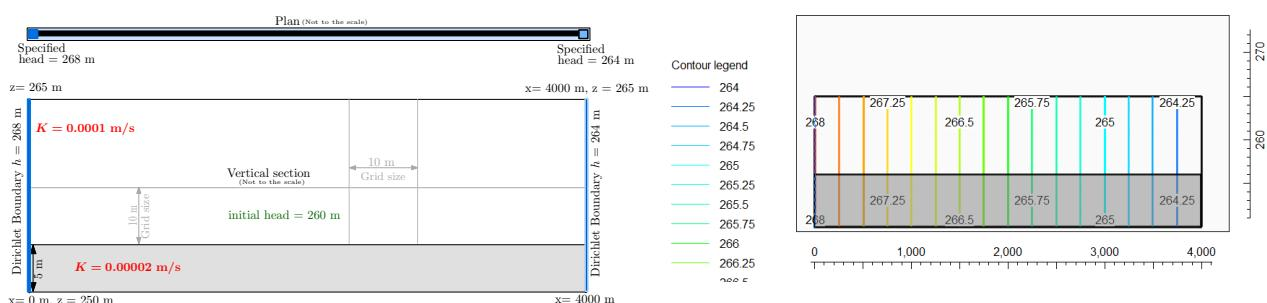
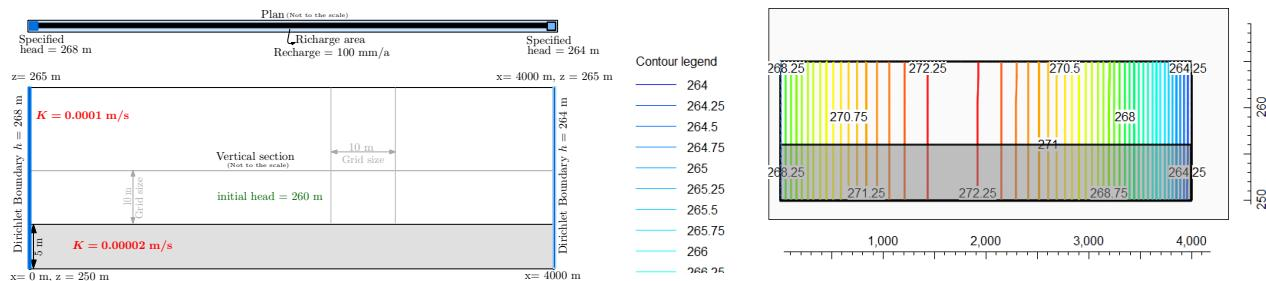
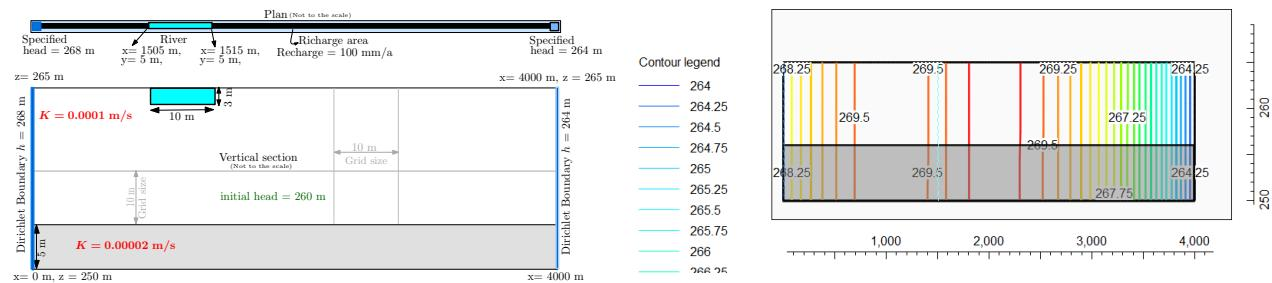

Figure 2: Left: The model domain and, **Right:** Obtained hydraulic head isolines for the front view
Figure 3: Left: The model domain and, Right: Obtained hydraulic head isolines for the front view
Figure 4: Left: The model domain with a river, and **Right:** Obtained hydraulic head isolines for the front view displaying the influence of river on the head
- check hydraulic head isolines - the resulting plot should appear as in: Figure 2
- check hydraulic head isolines - the resulting plot should appear as in Figure 3
- The distribution of isolines in the Figure 3 suggest that recharge of the domain distorts the uniformity of isolines (observed in Figure 2) towards the lower head (right) boundary
- check hydraulic head isolines - the resulting plot should appear as in Figure 4
- River provides additional source of water to the model and its impact is very distinct by comparing Figure 3 and Figure 4
- The pumping well forces flow towards itself. In fact, water is also pulled from the outflow (right) boundary. Comparing Figure 3 and Figure 4 basically displays that. The path-plot should more clearly demonstrate these.